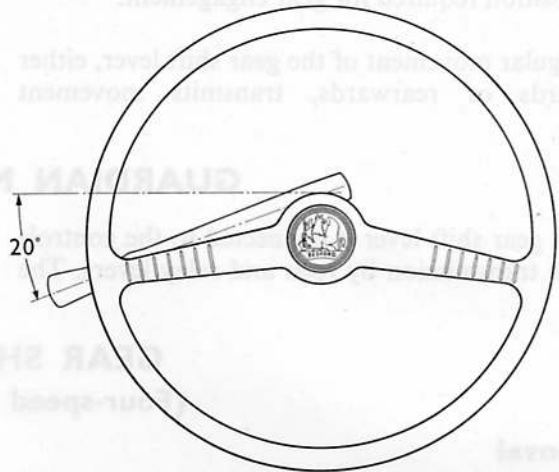

Fig. F.7. Gear shift lever location after adjustment of change speed linkage
2. Set the change speed striking lever on the three-speed transmission in the first speed (shaft in, lever towards rear) position and on the four-speed transmission in the second speed (shaft midway, lever towards rear) position. Adjust the change speed control rod to bring the gear shift lever 20° below the horizontal (Fig. F.7).